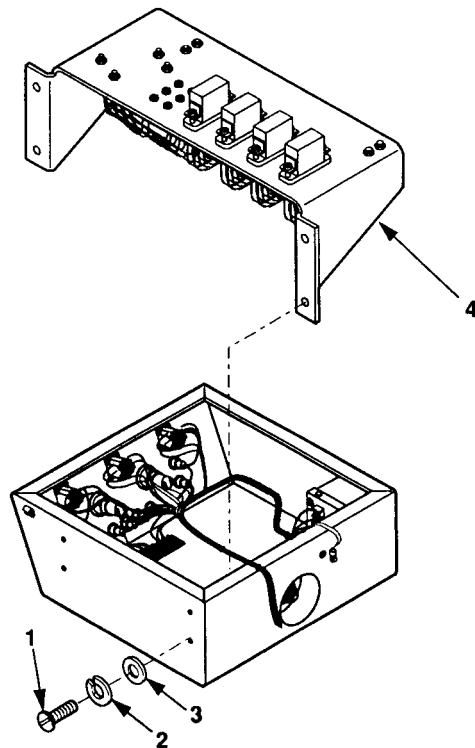

Figure 5-12. Relay Board Assembly Removal.
5. Remove four screws (1, figure 5-12), internal tooth washers (2), and flat washers (3), and invert relay board assembly (4).
4. Position relay board (4, figure 5-12) and install four flat washers (3), lock washers (2), and screws (1).